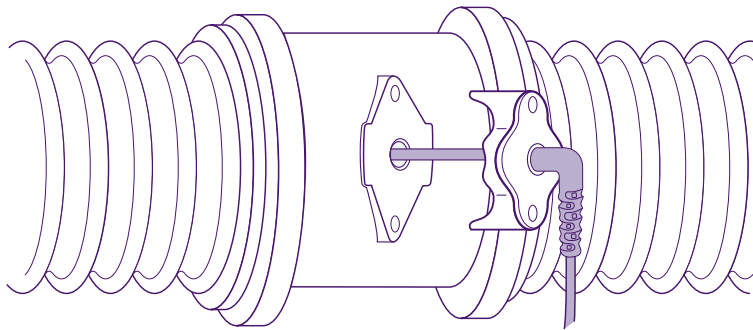

Figure 11. Warming unit hose wire junction.
7. Remove the two screws on the collar at the wire junction on the hose, and pull the wire out through the hose hole (see Figure 11).